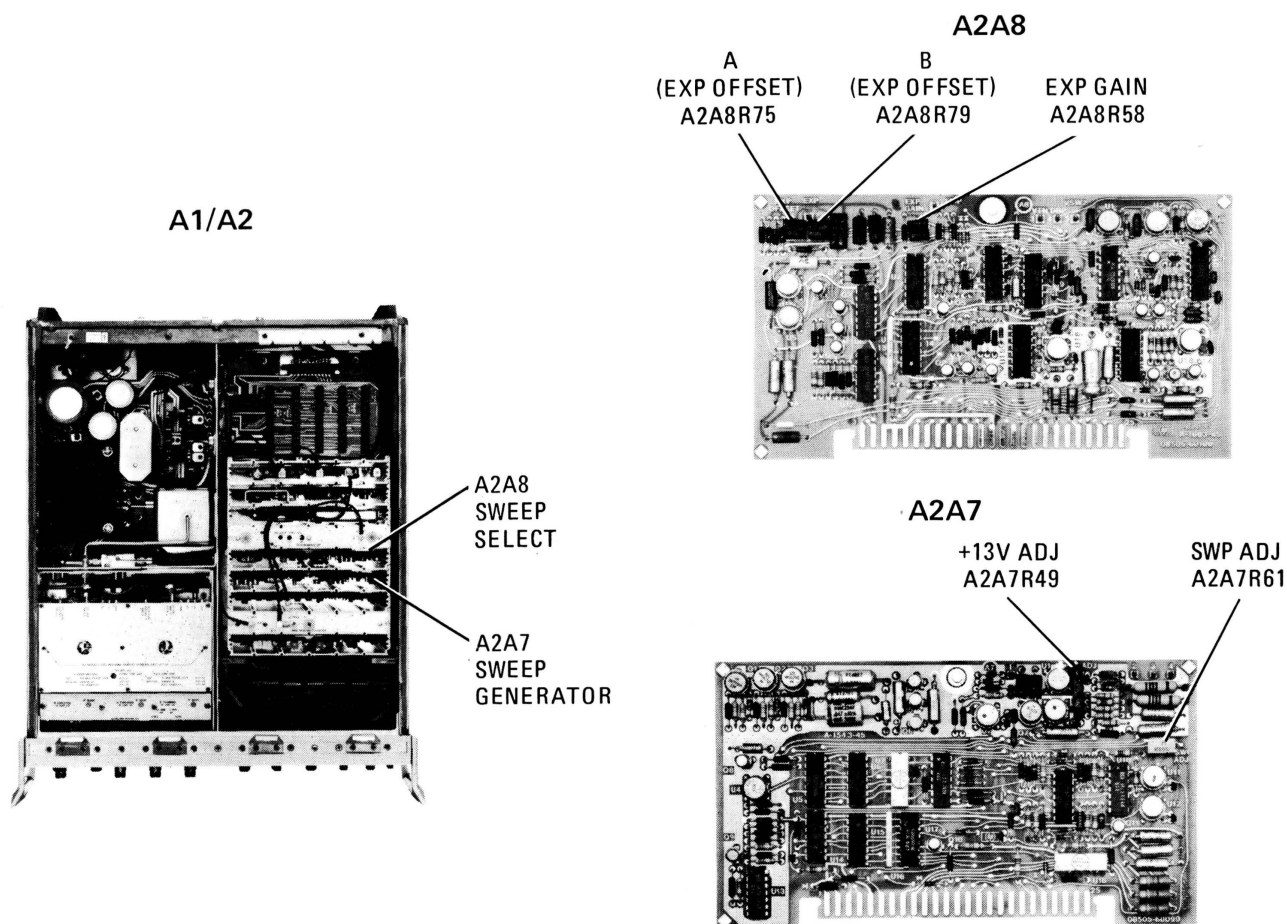

Figure A5-11. +13V Power Supply and Sweep Select Adjustment Locations
- a. Connect DVM to A2A4TP4 and indication should be +13.000 Vdc +0.005, -0.000 Vdc. (If indication is out of tolerance, adjust "+13 V ADJ" A2A7R49 in +13 Volt power supply (Figure A5-11) to obtain the correct voltage.)
- b. Connect DVM to LOG Test Point A2A8TP1. On A2A7 Sweep Generator board, connect A2A7TP3 to ground to select zero volts on VSW1 line into A8, pin 14. Adjust “EXP OFFSET A” control A2A8R75 for –1.000 Vdc ± 0.2 Vdc on DVM. Disconnect ground from A2A7TP3 (Figure A5-11).